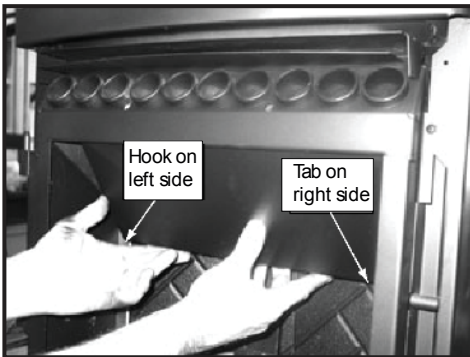

Figure 23.1
2. The top baffle has a hook on the bottom left side that rests on the top lip of the cast brick. There is a tab on the bottom right side that hooks into the side bracket. Remove the top baffle by first pulling the baffle forward until back edge drops down. Then slide baffle back until the front edge clears the shelf that it had been resting on. **Figure 23.1.**